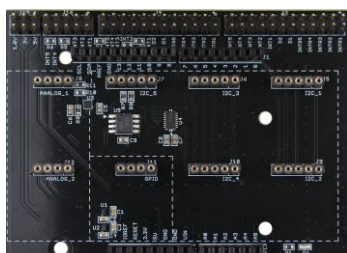

Figure 1. SensorShield
- Connection Board between Arduino and ROHM Sensor Board (Figure 1)